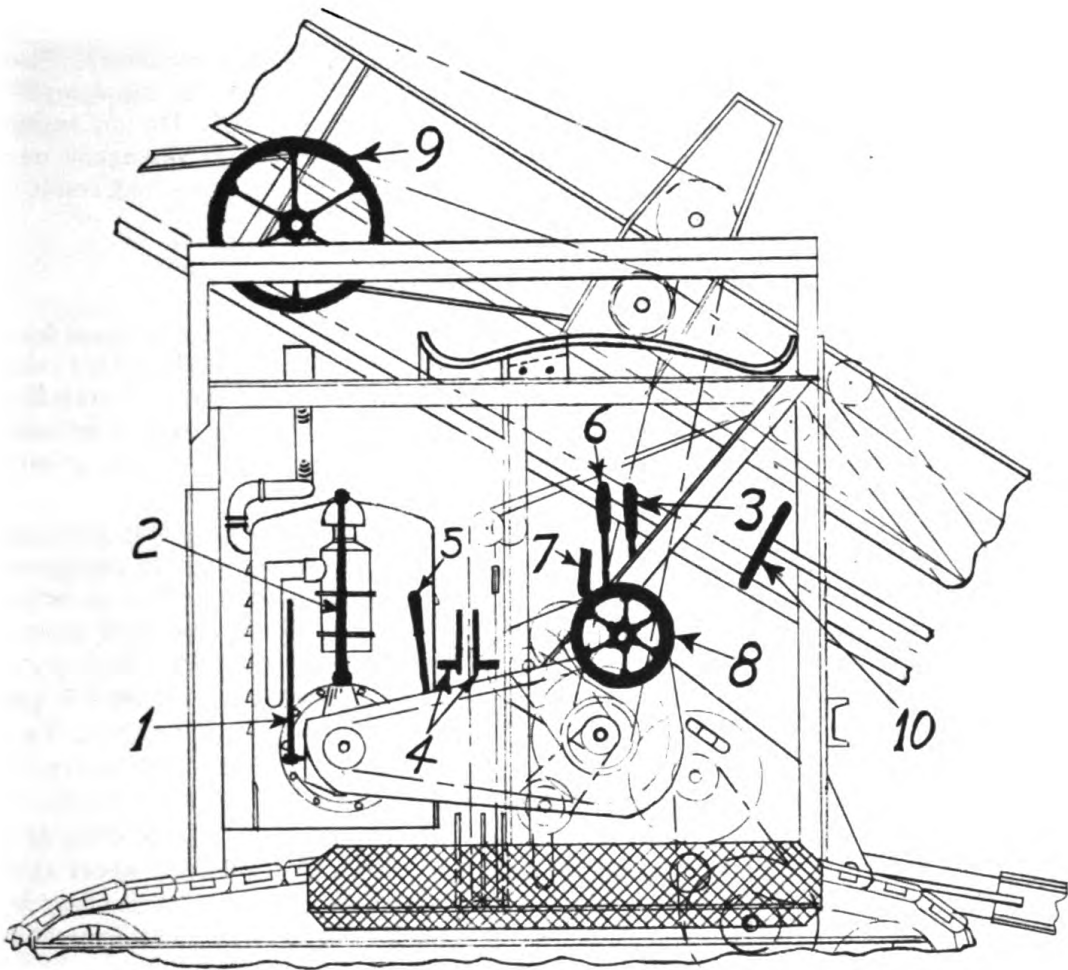

Figure 33. Operating levers.
(55) Master Clutch Lever (1) Figure 33
(56) Main Transmission Gear Shift Lever (2) Figure 33
(57) Conveyor Hoist Clutch Lever (3) Figure 33
(58) Steering Levers (4) Figure 33
(59) Elevating Conveyor Clutch Lever (5) Figure 33
(60) Crawler Speed Change Lever (6) Figure 33
(61) Gear Box Shift Lever (7) Figure 33
(62) Hoist Handwheel (8) Figure 33
(63) Baffle Control Handwheel (9) Figure 33
(64) Scraper Control Handwheel (10) Figure 33